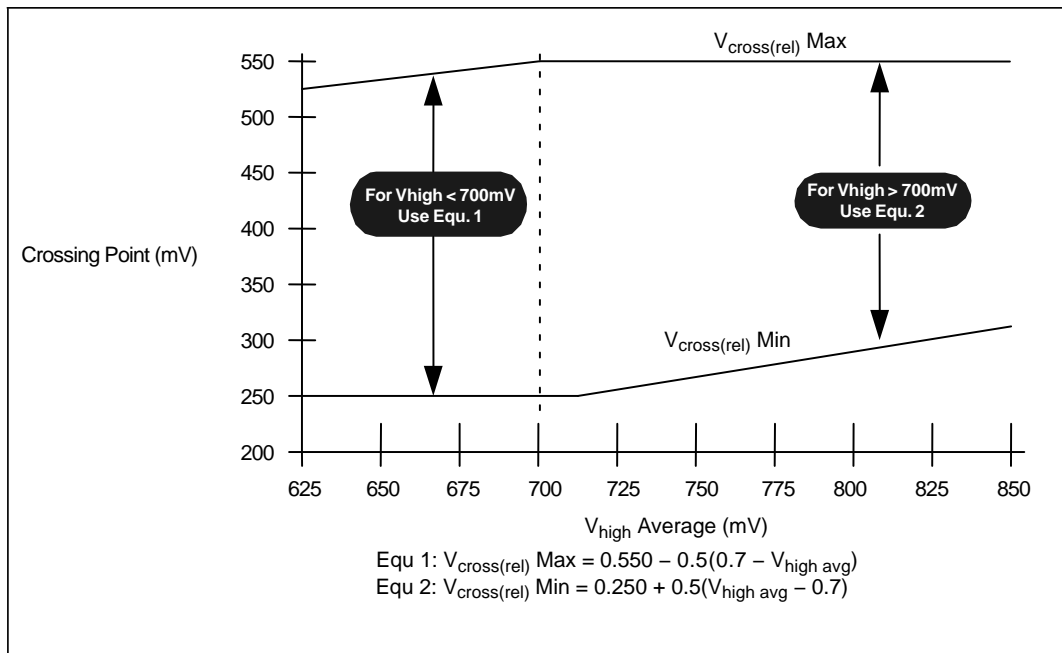

Figure 16. V_{cross} Range Clarification (Note 40)
| V_{cross} absolute | Absolute Crossing Point Voltages (Notes 12, 17 and 24) Relative Crossing Point Voltages can be calculated (Notes 16, 17 and 24) (Figure 16) | 250 | – | 550 | mV |
16. $V_{\text{cross}}(\text{rel})$ Min and Max are derived using the following, $V_{\text{cross}}(\text{rel})$ Min = $0.250 + 0.5 (V_{\text{high avg}} - 0.700)$. $V_{\text{cross}}(\text{rel})$ Max = $0.550 - 0.5 (0.700 - V_{\text{high avg}})$. (see Figure 16 for further clarification).